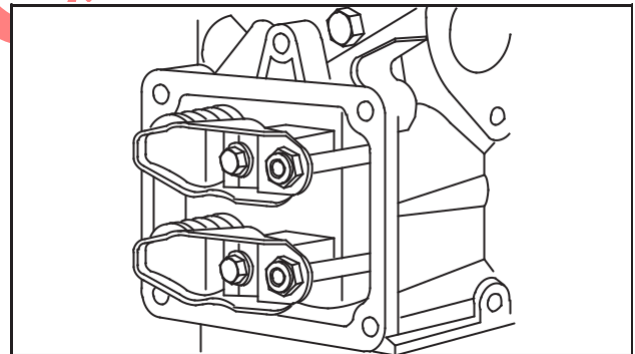

Fig. 7 – Remove Rocker Arms And Push Rods
8. Remove rocker arms and push rods, Fig. 7.